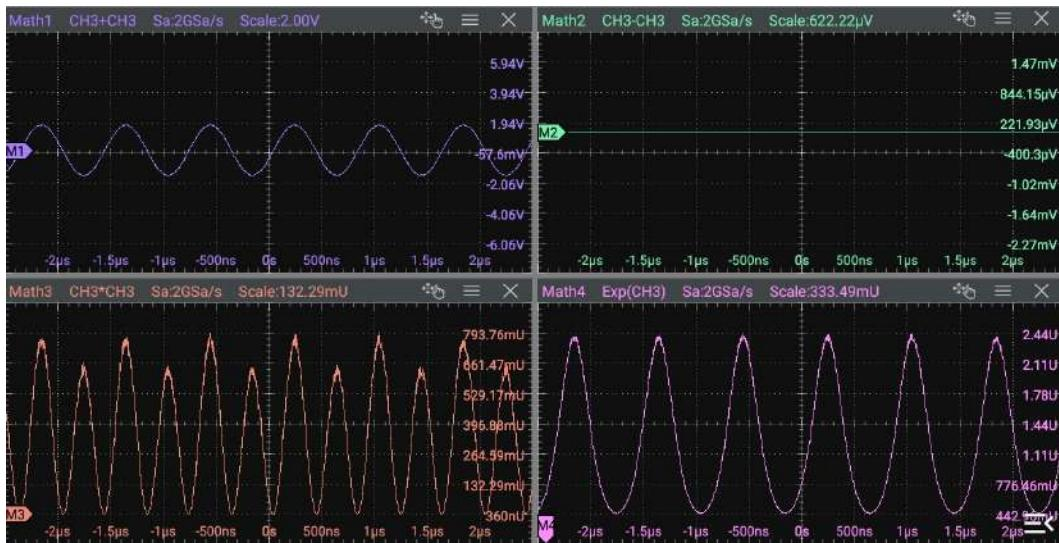

Figure 9.2 Operation Result Display Window
- Click or tap the Math1-Math4 label at the bottom of the screen, and the corresponding interface appears on the screen, as shown in Figure 9.2. Click or tap the label again, or the icon  at the upper-right corner of the window to enter the math operation menu.
In the **Math** menu, click or tap the ON/OFF tab for the **Operation** menu to show or hide the waveform display window of the operation results. By default, it is OFF. When set to sON, the figure as shown in *Figure 9.2* is displayed on the screen.